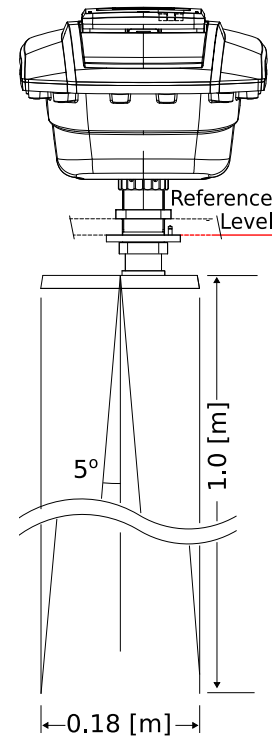

Figure 2.1: The  $5^\circ$  [deg] half top angle of the F08 antenna beam and the reference level for mounting height measurement.
- It is advised to choose a mounting position such that the WaveGuide radar beam is free of large reflecting obstacles (the beam of the F08 antenna has a  $5^\circ$  [deg] half top angle as shown in Fig. 2.1). The minimum horizontal distance between the radar and any obstacle in the beam's path should be at least 10% of the vertical distance between the radar and the obstacle. This does not only include horizontal objects in the beam's path but also vertical structures.
- The reference level for the mounting height of the radar is shown in Fig. 2.1.